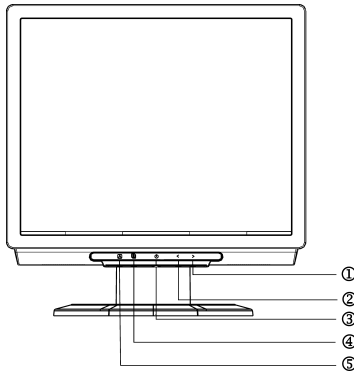

Figure 3 External Control Button
3. Hold the left and right sides of screen with both hands and then turn 90 degrees in clockwise direction.as per Fig. 3.
Press the power button to turn the monitor on or off. The other control buttons are located at front panel of the monitor (See Figure 3). By changing these settings, the picture can be adjusted to your personal preferences.